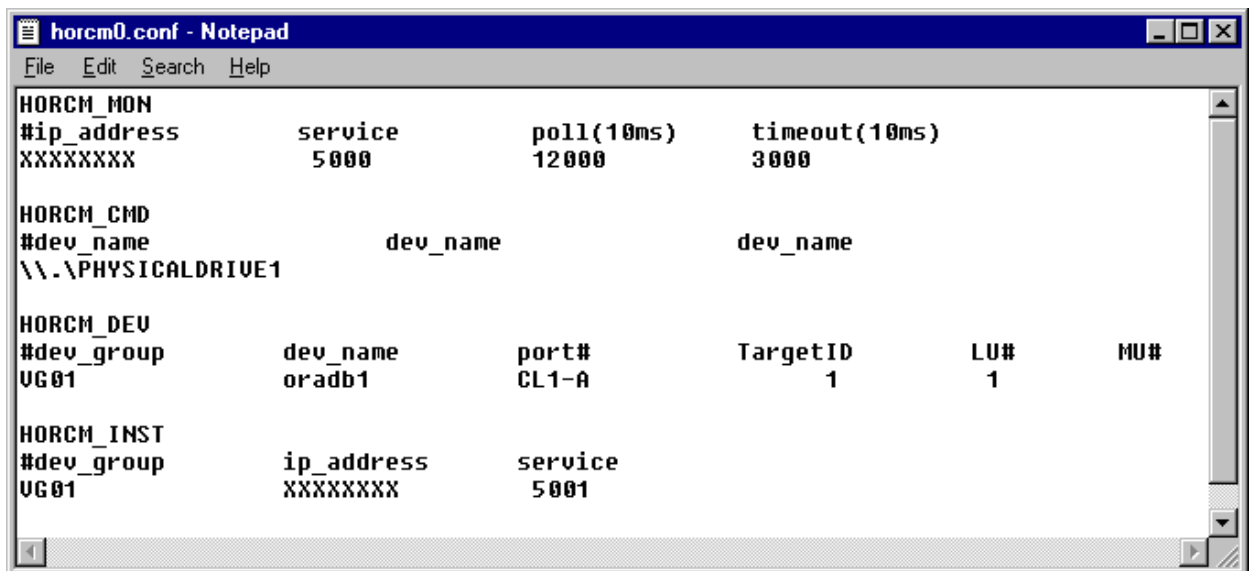

Figure D-1: Horcm0.conf example
5. In the HORCM_CMD section, specify the physical drive (command device) on the array. Figure D-1 shows an example of the horcm0.conf file.